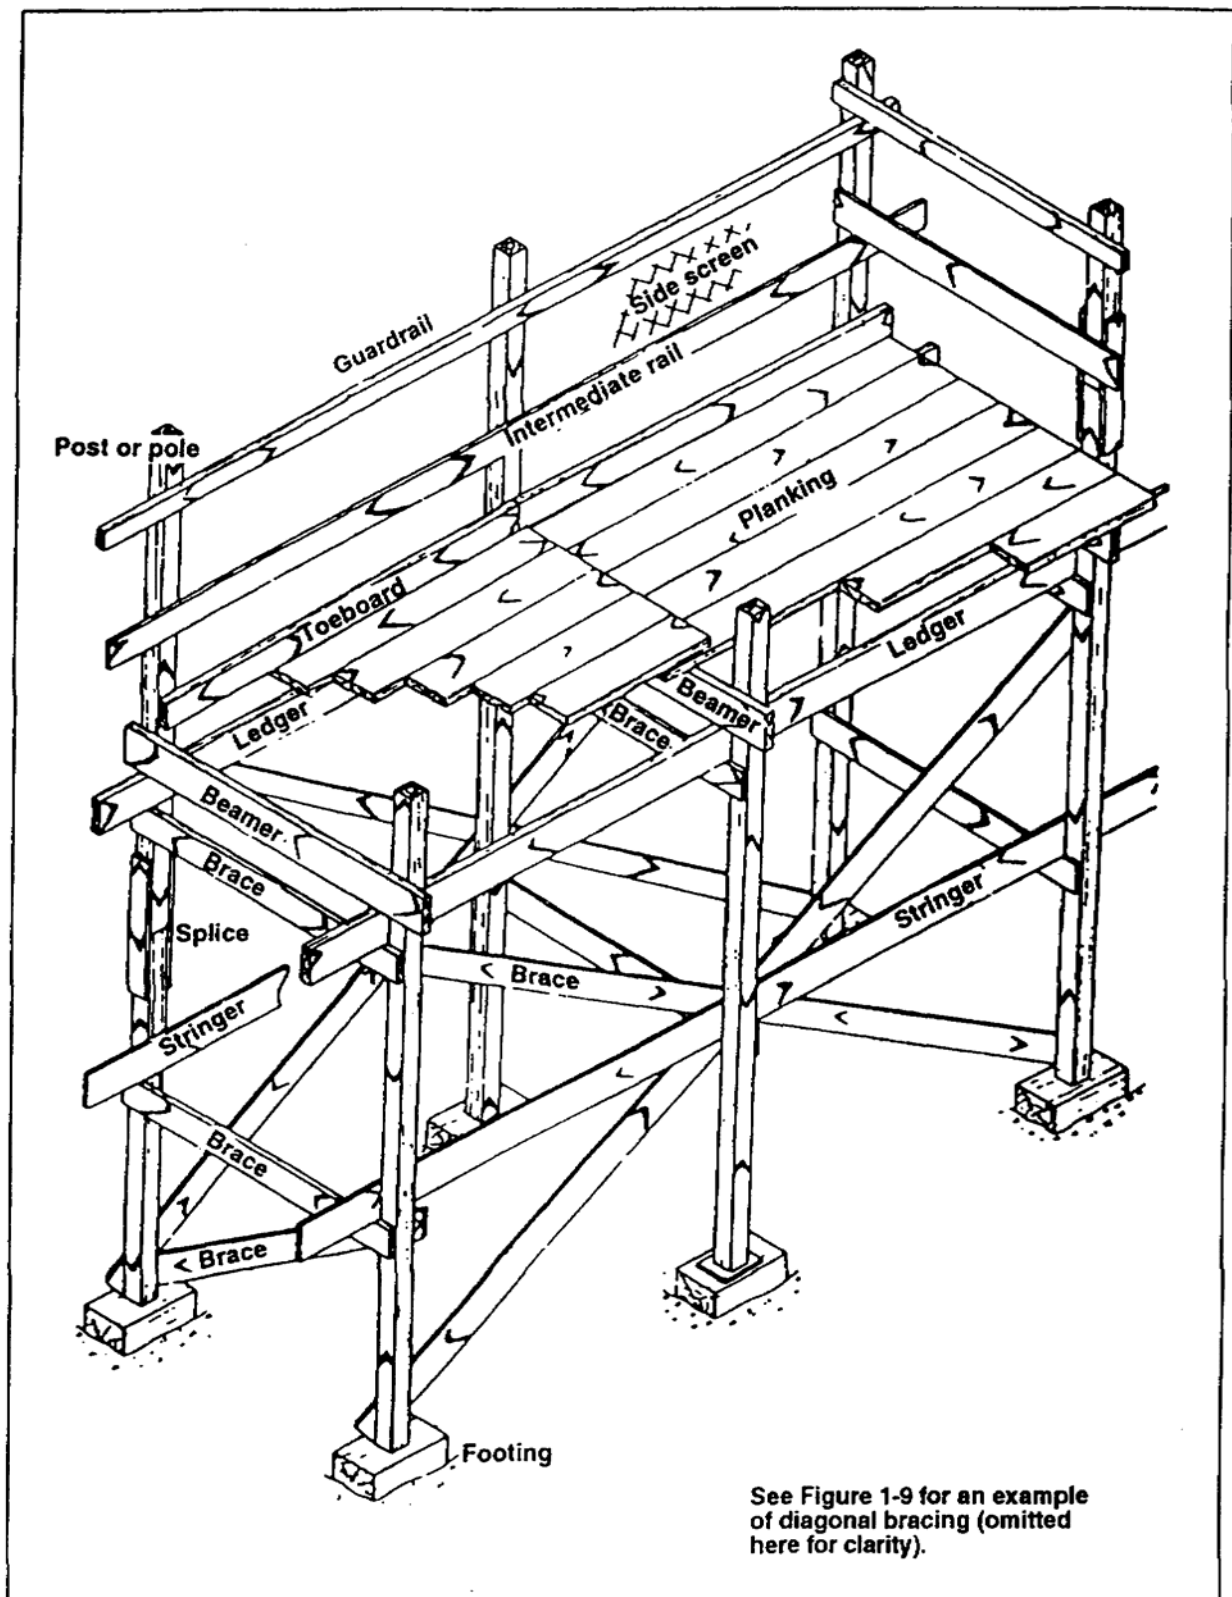

Figure 1-8. Double-pole or independent scaffold
b. Scaffolds (Figures 1-8 through 1-15, pages 1-12 through 1-18). The following safety rules apply to scaffolds and planking:
(1) Scaffolds. When setting up or using scaffolds, you should--